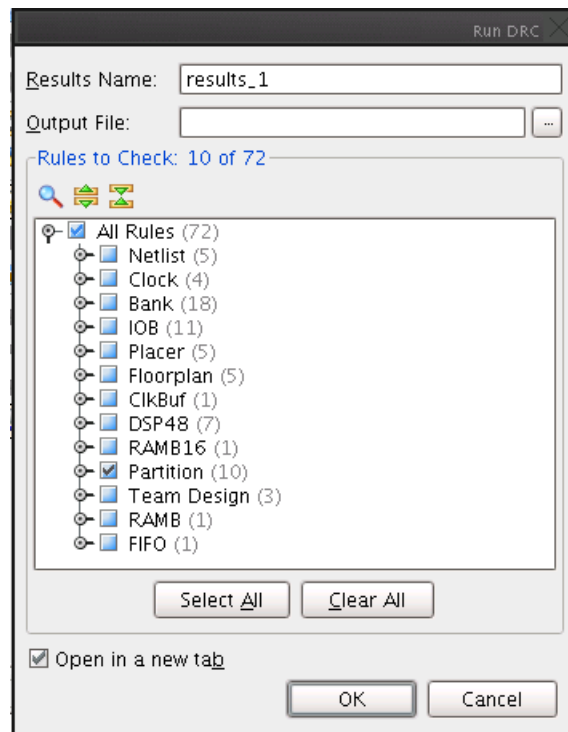

Figure 1-7: Run Partition DRCs
3. From the **Run DRC** dialog box, unselect all rules except **Partition**, and click **OK** (Figure 1-7).